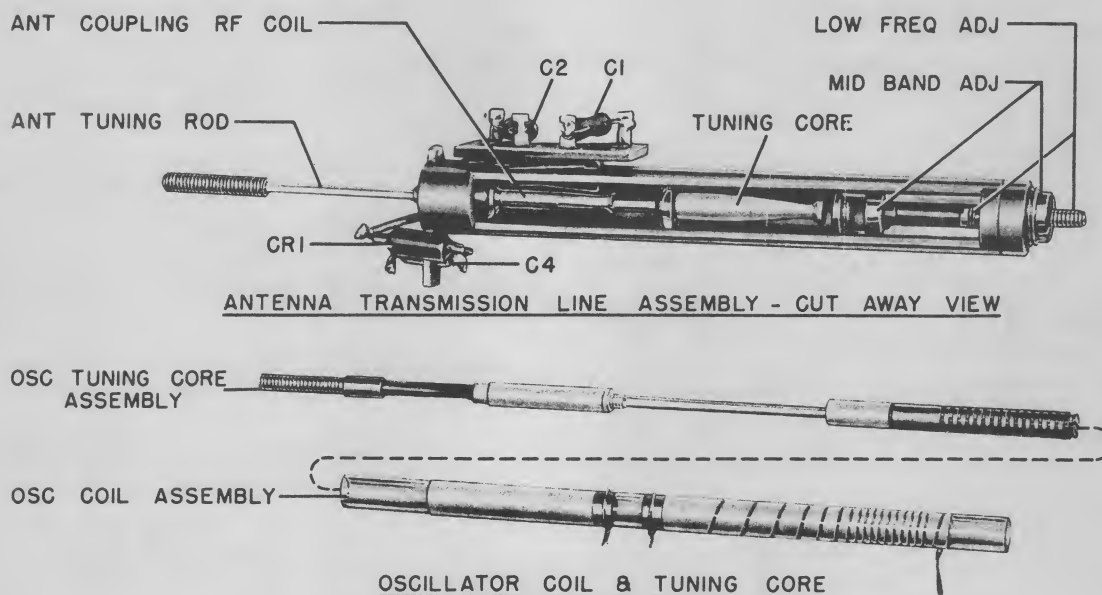
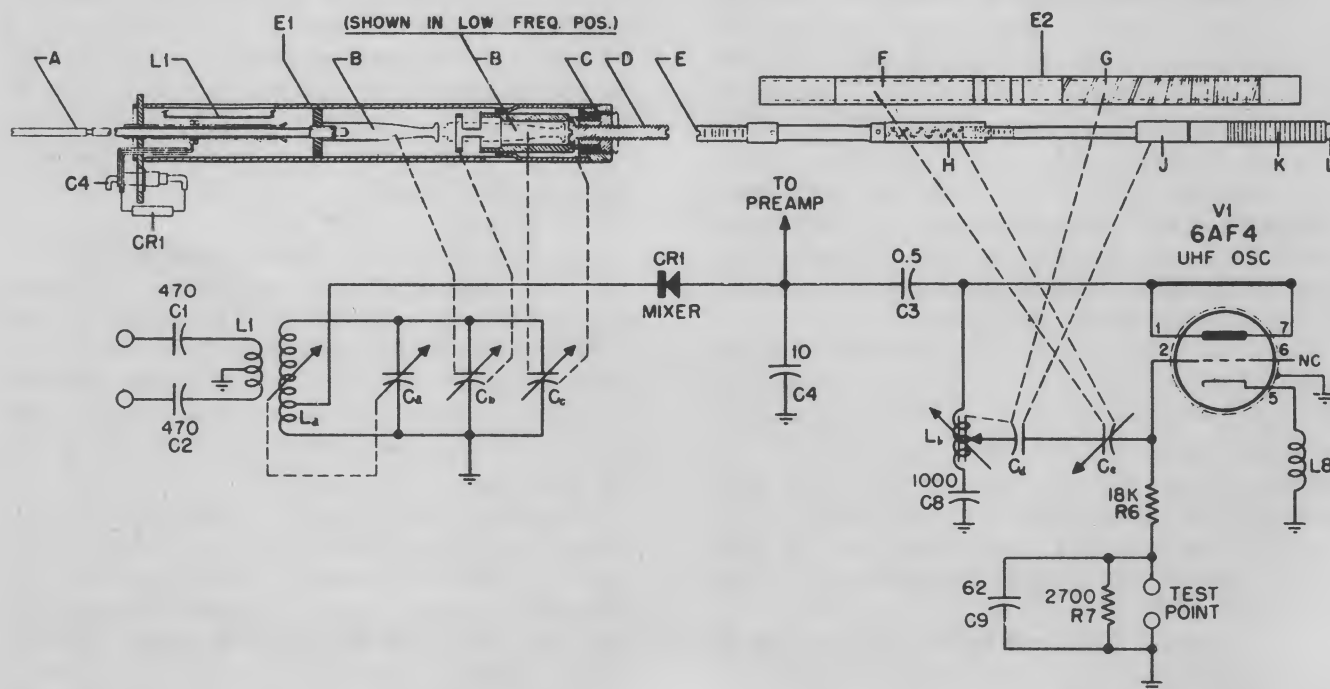

Fig. 9-12. Oscillator tuning core and coil, uhf converter: Motorola.
Fig. 9-13. UHF tuner functional diagram: Motorola 21T4AC chassis.
is then brought to the vhf tuner, set for Channel 5 or 6. Figure 9-12 is a photograph of the antenna transmission-line assembly and the oscillator coil and tuning core. Figure 9-13 is a functional diagram of the tuner, identifying the electrical characteristic with its physical component.
(1) *Antenna transmission-line assembly.* A 300-ohm balanced input receives the uhf signal, which is then loop-coupled by  $L_1$  into the coaxial line. The tube wall, together with the rod and core assembly ( $a$  and  $b$ , Fig. 9-13), form the inductance  $L_a$ .  $C_a$  is
(2) *Oscillator coil and tuning core.* *Lb*, the oscillator coil, consists of a metallized winding on a glass coil form (*G* in Fig. 9-13). The coil tuning core, *J*, also combines with windings to form capacitor *Cd*. Slug *K* consists of a series of copper rings which raises the resonant frequency of the unused portion of the inductance above the operating frequency to prevent "suck-outs" in the tuning range. *E* and *L* are high- and low-band alignment adjustments.